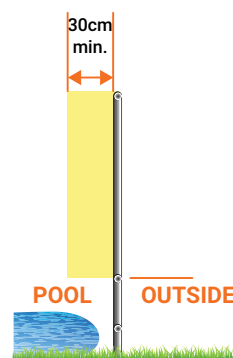

Figure 4 – climbable surfaces, inside the pool area, located at least 30cm away from the inside of the pool fence.
c. Are climbable surfaces, inside the pool area, located at least 30cm away from the inside of the pool fence? (see Figure 4)	☐